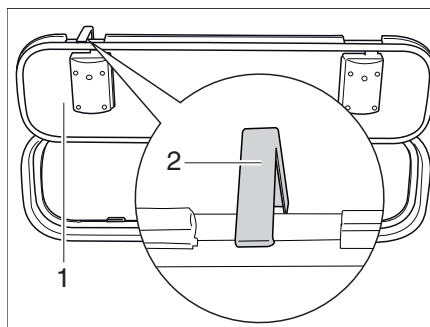

Fig. 53 Securing hook external flap
- Open the external flap (Fig. 53,1) and turn the securing hook (Fig. 53,2) upwards at the vehicle side.
- Press the securing hook (Fig. 53,2) upwards.